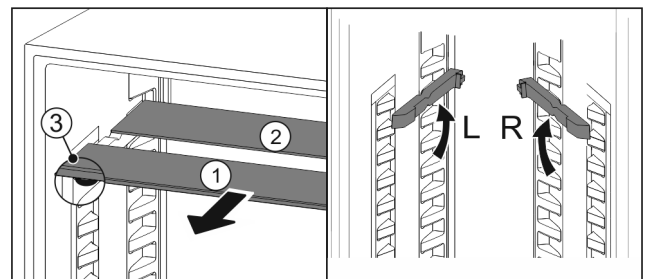

Fig. 96
- Pull the glass panels out Fig. 96 (1) from the front, one at a time.
- ▷ The glass panel Fig. 96 (1) and trim strip are at the front.
- ▷ The stops Fig. 96 (3) point down.